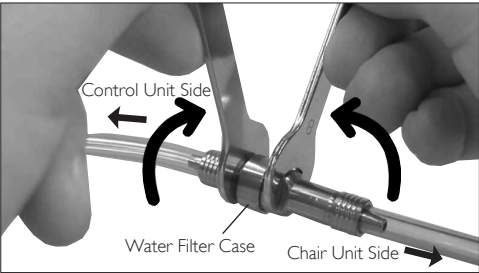

Fig.18
- 2) Mount two Spanner Wrenches (5x8) and turn. **(Fig.18)**